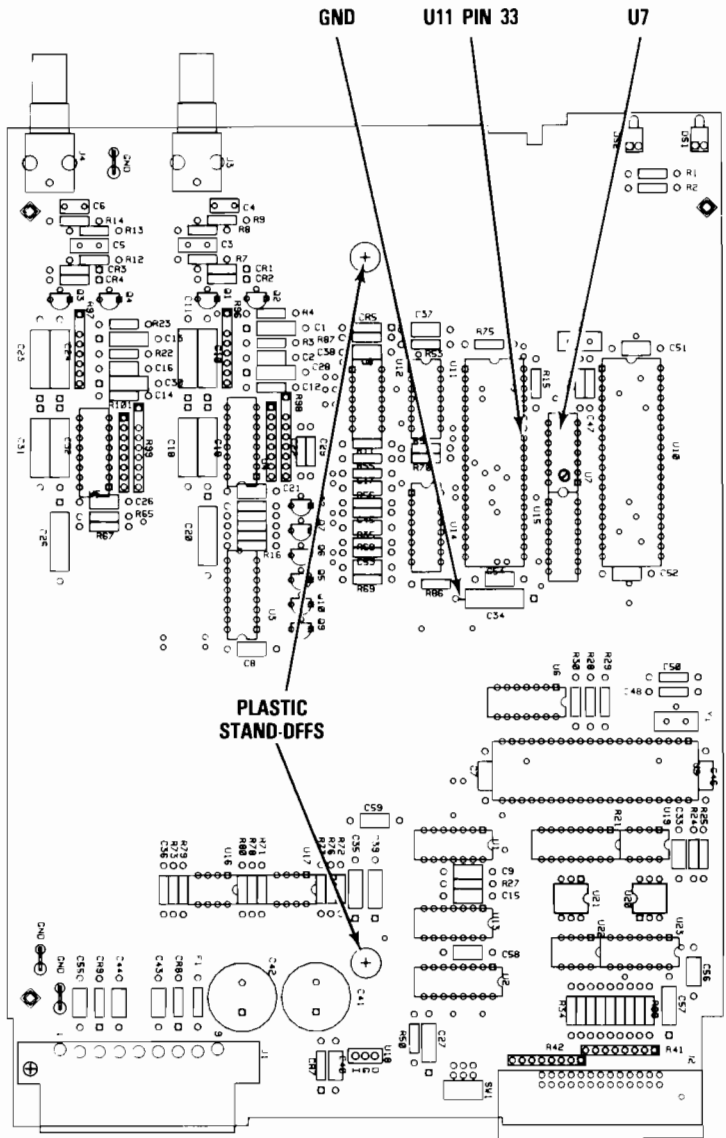

Figure B-2. Component Locations
Once the top cover has been removed from the Universal Counter, connect the oscilloscope input probe between U11 pin 33 and ground (ground can be found opposite the + side of C34). See Figure B-2 for the location of these components.
1. Place the bottom of the unit on a table top with the circuit board facing up. Replace the plastic spacers over the two plastic stand-offs illustrated in Figure B-2.